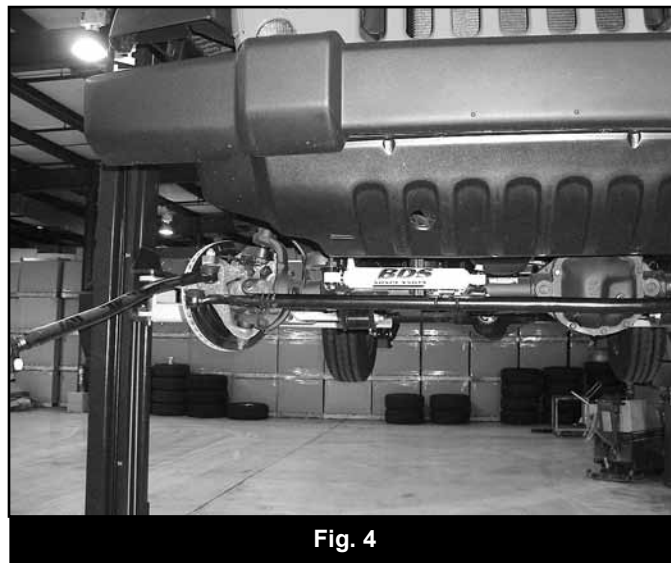

Fig. 4
12. 12. Perform a steering sweep to ensure there is adequate clearance between the cylinder and the mounting brackets. Make adjustments where necessary. (Fig 4)